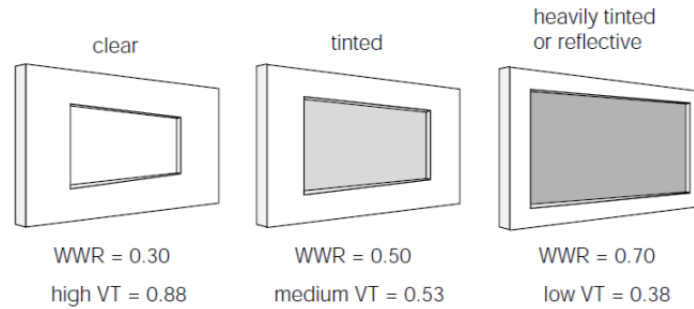

Figure 6: Effective Aperture (EA) is visible transmittance (VT) x window-to-wall ratio (WWR). These three examples all have the same EA of 0.26.
- **Size the windows and select glazing at the same time.** The larger the glass area, the lower the required visible transmittance. Use the effective aperture (EA) approach to make these trade-offs (see Figure 6). Select glazing and window area to target an EA around 0.30. See Tools & Resources, below, for additional sizing help.